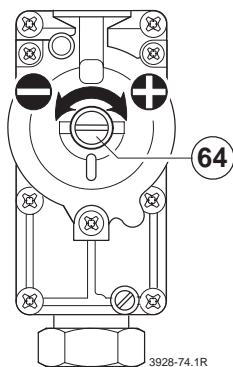

Fig. 44
- Remove the seal from the gas valve adjusting screw (64) and adjust the CO₂ level to the figure given in Table 15 for min. rated heat output. Refer to fig. 44.